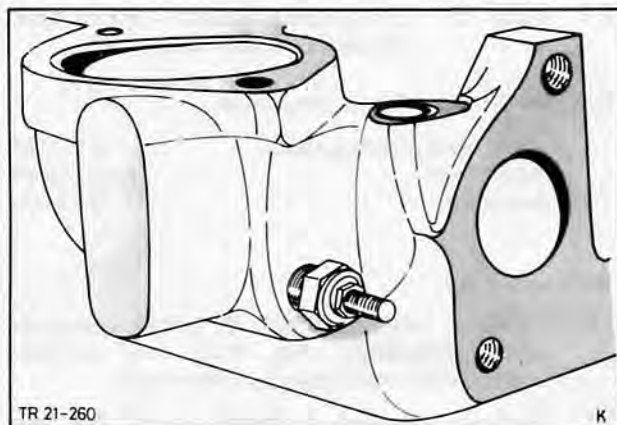

Fig. 150. Fit temperature sender unit
8. Refit exhaust manifold studs and temperature sender unit, Fig. 150.